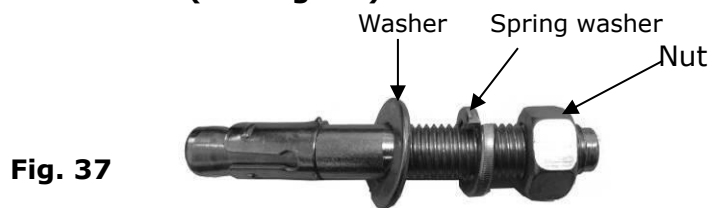

Fig. 37
1. Prepare the anchor bolts (**See Fig. 37**).